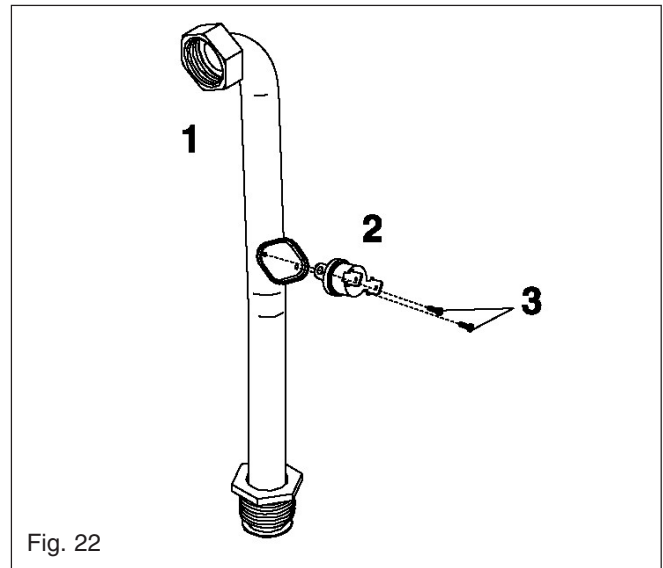

Fig. 22
6.11 HIGH LIMIT THERMOSTAT fig. 22